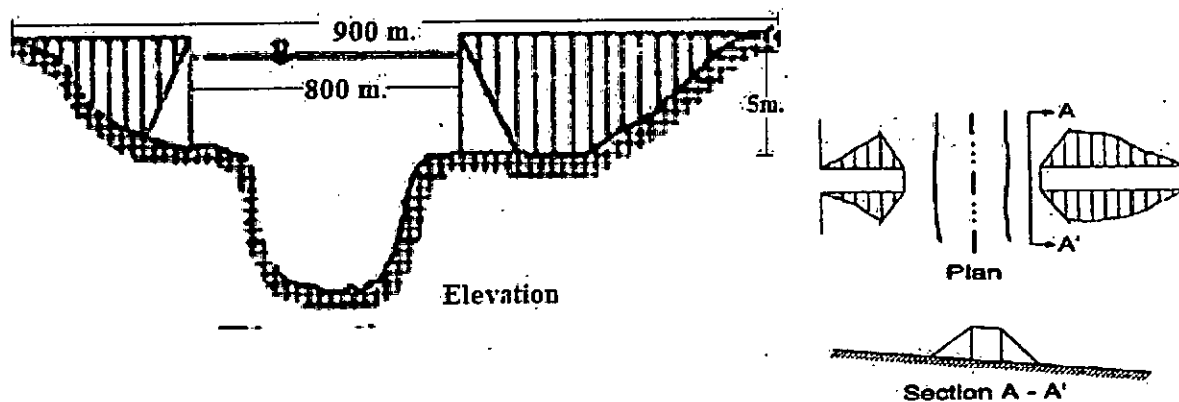

Figure 2: For question 2(b)
- (b) Following hydraulic data are recorded at Hardinge Bridge gauging station of the River Padma: maximum discharge = $(70,000 + 20 \cdot R) \text{ m}^3/\text{s}$, highest flood level = 10 m PWD, bank full water level = 6 mPWD, low water level = 2 mPWD, bed material size = 0.22 mm. Now, design a guide bank for the bridge site. Sketch your design. [Given, R is the last three digit of your student ID] (15)
2. (a) Draw a figure showing different types of bridge scour. (5)
(b) In Figure 2, elevation, plan view and section of a typical bridge abutment are shown. If the upstream approach flow hit the abutment with a velocity of $(1.2+0.001 \cdot R)$ m/s, estimate the possible scour depth using the Froehlich equation. Here, R is the last 3 digits of your student ID. Assume reasonable data if necessary. (15)